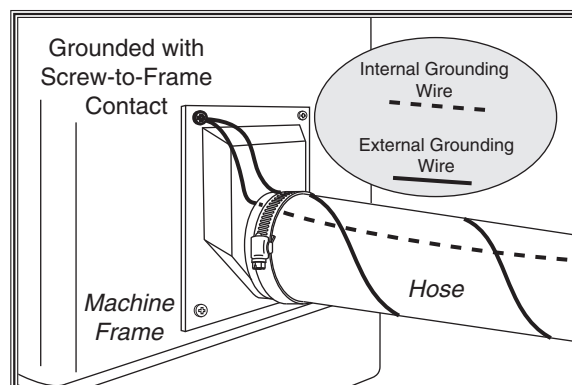

Figure 17. Grounding diagram for attached machine.
- Ground your dust collection hose to protect against unpleasant static shock, and in the worst case, an accidental fire. Do this by running copper wire on both the inside and outside of the dust collection hose. Attach one end of the wire to the metal frame of the dust collector (see **Figure 16**) and the other end to the metal frame of the machine you are collecting dust from (see **Figure 17**) to ensure that the dust hose is grounded.